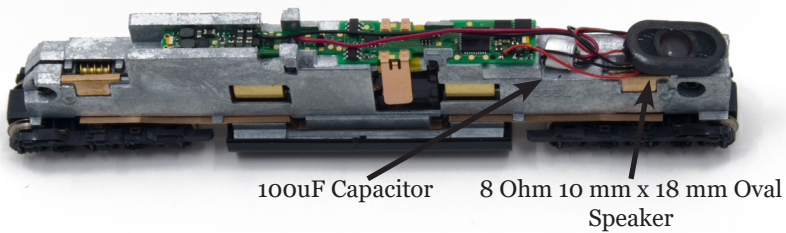

Figure 2: SDXN146K2: Completed installation without locomotive shell
5. Place the speaker and the capacitor on the rear of the locomotive frame. Double sided tape can be used to help hold these items in place. Fold and shape any excess wire so that it lays flat. See **Figure 2** to see completed installation.